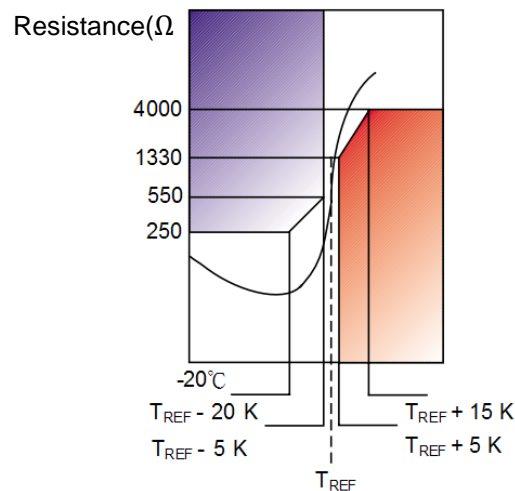

Figure 5.2.28 Relationship between PTC temperature and resistance
PTC100 and PTC120(130) are thermistors. Their output resistance changes according to coil temperature. Resistance of PTC100 rises drastically when $T_{\text{REF}}=100^{\circ}\text{C}$, while resistance of PTC120(130) rises drastically when $T_{\text{REF}}=120(130)^{\circ}\text{C}$. Their features are given in Table 5.2.8 and Figure 5.2.28.
To protect the motor windings against thermal damage, every motor is equipped with a triple positive temperature coefficient (PTC) sensor, type SNM120/130 (in accordance with DIN 44082-M180). Since the degree of heating of the individual motor phases can be very different, a PTC sensor is fitted in each phase winding (U, V and W). Each PTC element has a “Quasi-switching” characteristic, i.e. the resistance suddenly increases close to the rated temperature (switching threshold, Figure 5.2.28). Due to its low heat capacity and good thermal contact with the motor winding, the PTC reacts very quickly to a rise in temperature and, in conjunction with additional protective mechanisms on the control side, ensures reliable motor protection against overload. The PTC elements located in every phase winding in HIWIN motors are wired in series; they connect via two wires.